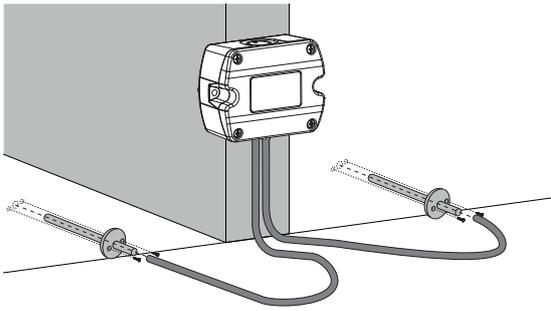
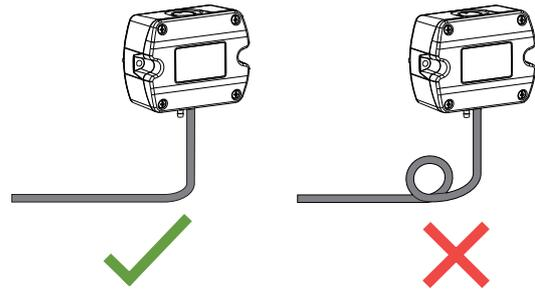

Fig. 6 Pressure connection
Fig. 7 Pressure hose route
3. Connect the pressure hose (included in the scope of supply) first to the EE610 and then to the duct. Route the pressure hose for avoiding sharp bends which might lead to the hose obstruction (Fig. 6 and Fig. 7).